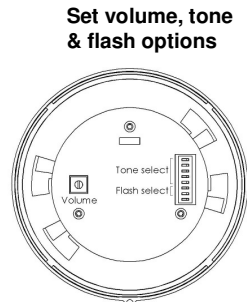

Figure 3
4. Set the Volume, Tone & Flash options via Pot & DIP switch shown in Figure 3, in accordance with the setting data on the reverse.